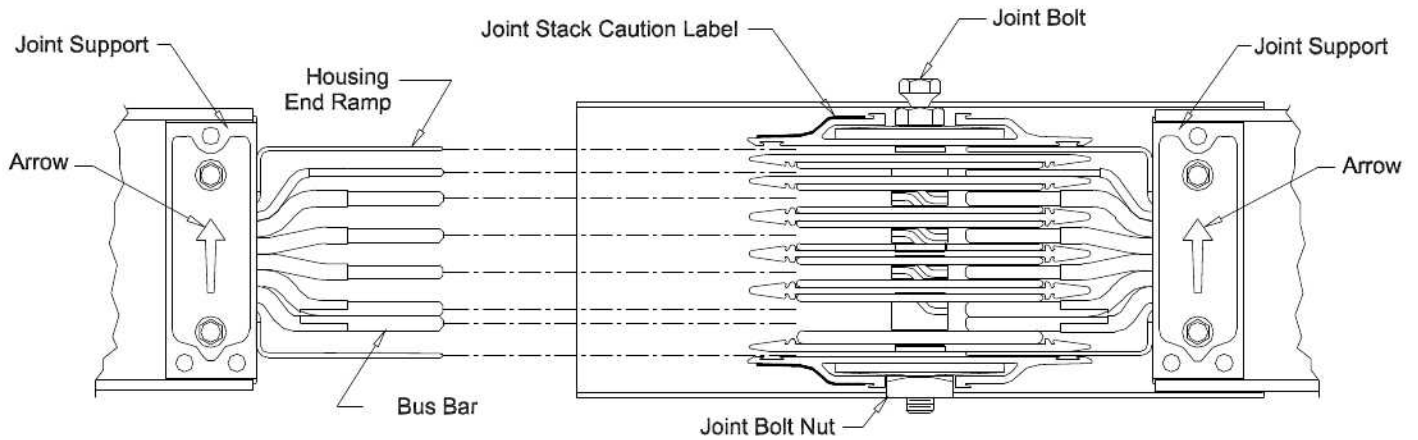

Figure 12. Joint (Assembling)
9.1.2 Align the busway sections and confirm that the arrows on the joint supports of the two (2) busway sections to be joined are pointing in the same direction (Figures 12 and 13).
WARNING: Ensure that the bus bars and housing end ramps (Figure 12) engage properly between the joint stack insulator plates as shown in Figure 12. Refer to the CAUTION note of section 6.0.